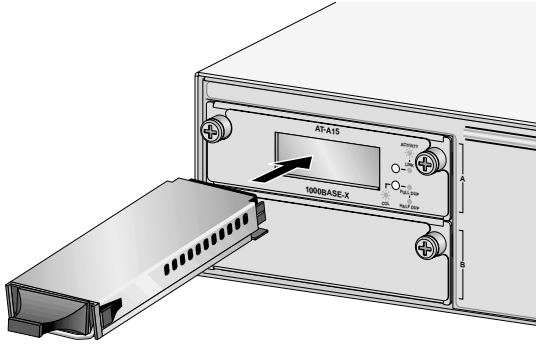

Figure 9 Installing a GBIC Module into the AT-A15 (SX or LX) Expansion Slot
3. Slide the new GBIC module into the expansion slot and push it in until it clicks. Refer to Figure 9.